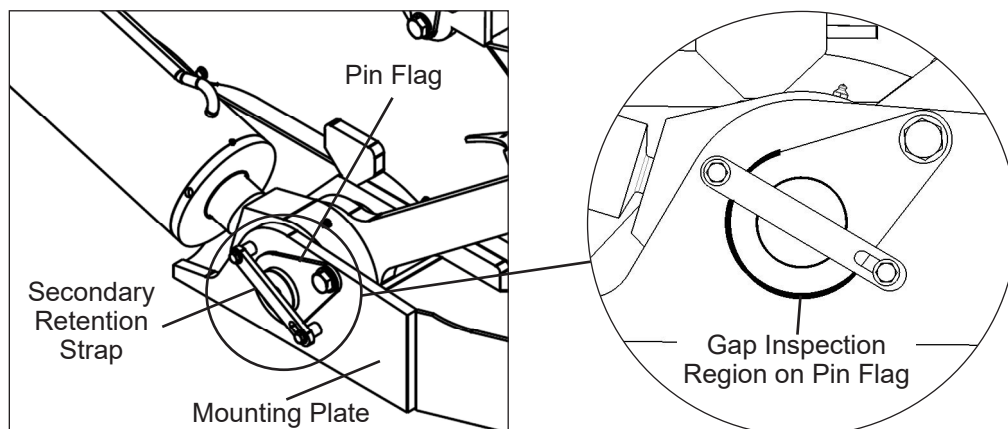

Figure 2 — Flag Pin and Secondary Retention Strap Example
- On any pin that is not fully seated, measure the gap between the pin flag and the mounting plate in the area around the pin shaft (refer to Figure 2). Use this same method for gap measurement whenever it is called for in the remaining steps.